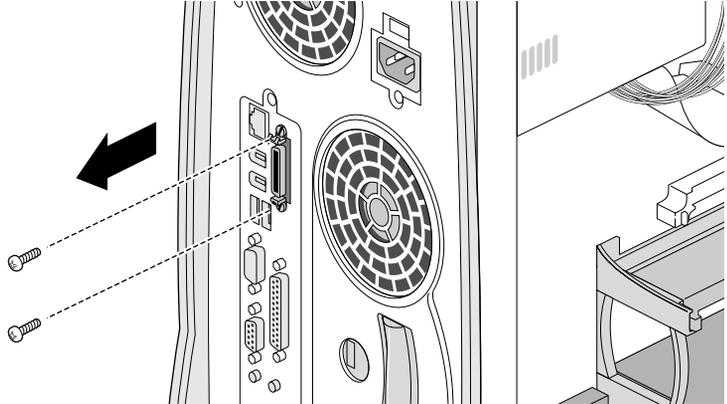

Figure 5-8 Removing the Screws from the Display Option Card
4. Remove the two screws attaching the card to the back panel, as shown in Figure 5-8.